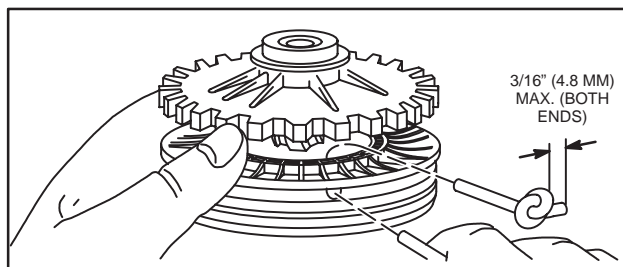

Fig. 629 – STARTING ROPE IN PULLEY
- Tie a small knot, heat seal and pull tight into recess in rope pulley. Rope must not interfere with gear motion, Fig. 629.